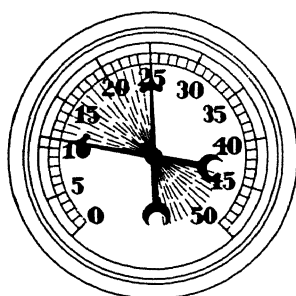

Fig. 28. Needle Drop Constant—Valve Burnt
**Burnt Valve.** Needle, Fig. 28, has a constant drop whenever burnt valve or valves which are holding open come into operation. This action can also be caused by insufficient valve tappet clearance.